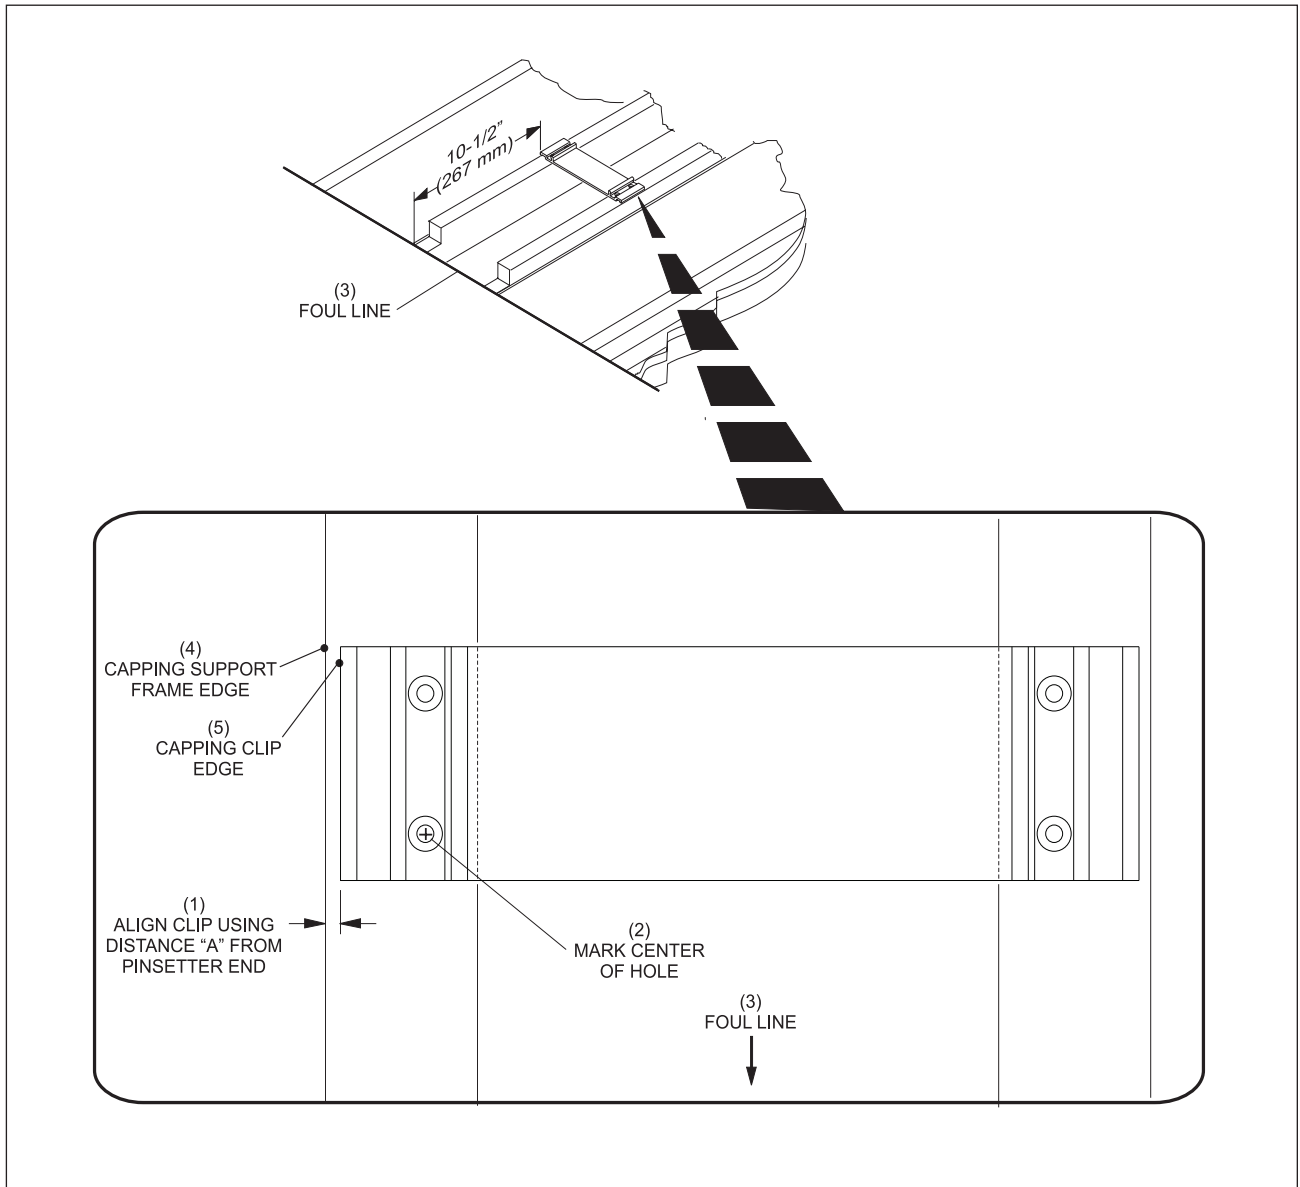

Figure 22. *Layout Approach End of Support Frame*
2. Center capping clip on capping support creating equal distance between the clip edges and the outside edges of the capping support Frame. Refer to *Figure 22*.